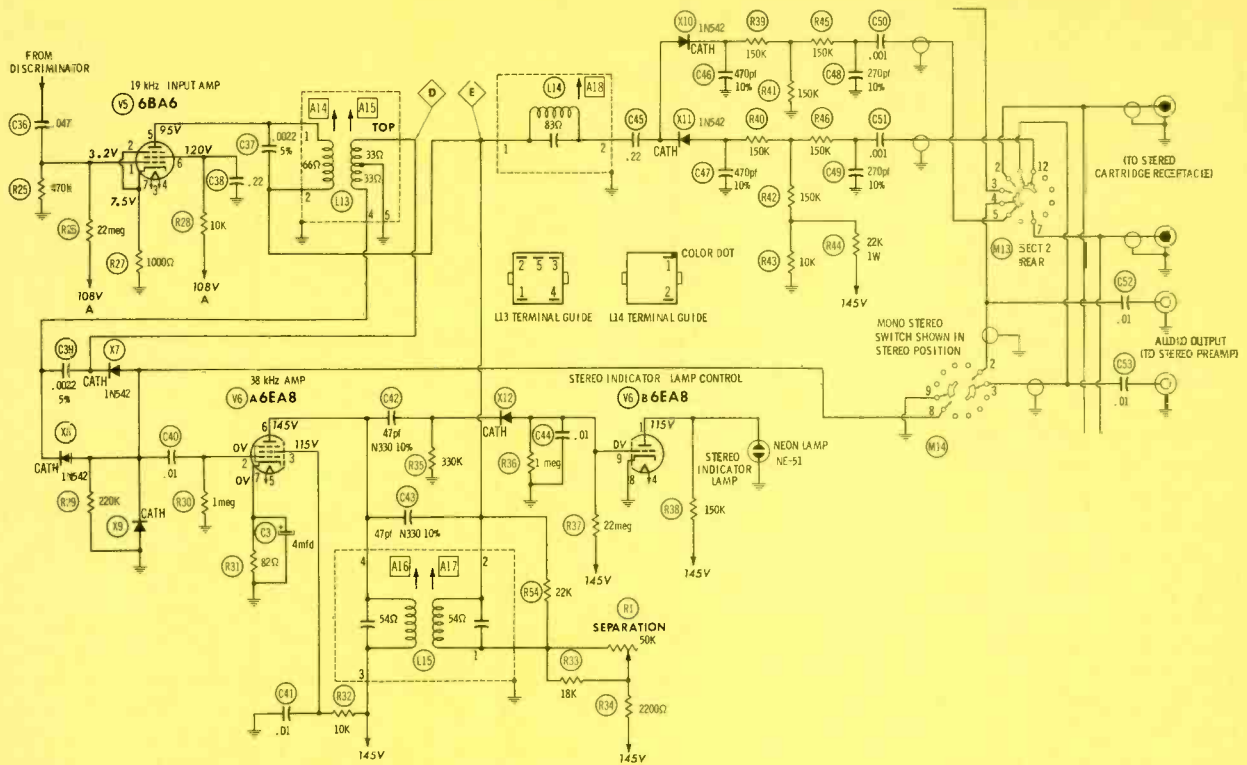

Fig. 8 Multiplex system using an envelope detector circuit.
matrix type of decoder was explained previously. Therefore, let us consider the alignment procedure for the time-division type of decoder and, in particular, the envelope detection configuration. Fig. 8 depicts a typical envelope-detector circuit. A normal undetected (undemodulated or undecoded) waveform is shown in Fig. 9. Note that after the 38-KHz subcarrier is reinserted into the discriminator output signal, R-signal and L-signal envelopes become available.
With reference to Fig. 8, the output from V5 is fed to L13 and to L14. A 38-KHz subcarrier is fed from L15 into L14. Thus, the R and L envelope signals are fed to diodes X10 and X11. Note that X10 passes the positive envelope signal, and rejects the negative envelope signal. Conversely, X11 passes the negative envelope signal and rejects the positive envelope signal. It is evident that if misalignment causes the subcarrier to have an incorrect phase, both envelope signals will be distorted and the decoder will develop an objectionable amount of harmonic distortion.
2. Check capacitors for leakage. An open capacitor can also be the cause of distortion. For example, C45 (Fig. 8) might be leaky, or C38 might be open.